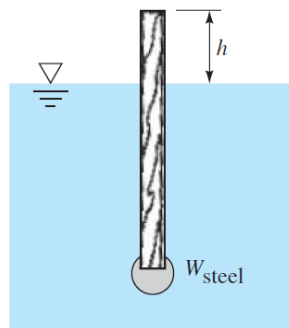

Fig. 2.4
- 2.4 A spar buoy is a buoyant rod weighted to float and protrude vertically, as in Fig. 2.4. It can be used for measurements or markers. Suppose that the buoy is maple wood ($SG = 0.6$), 5 cm by 5 cm by 3.5 m, floating in seawater ($SG = 1.025$). How many pounds of steel ($SG = 7.85$) should be added to the bottom end so that $h = 0.5$ m?